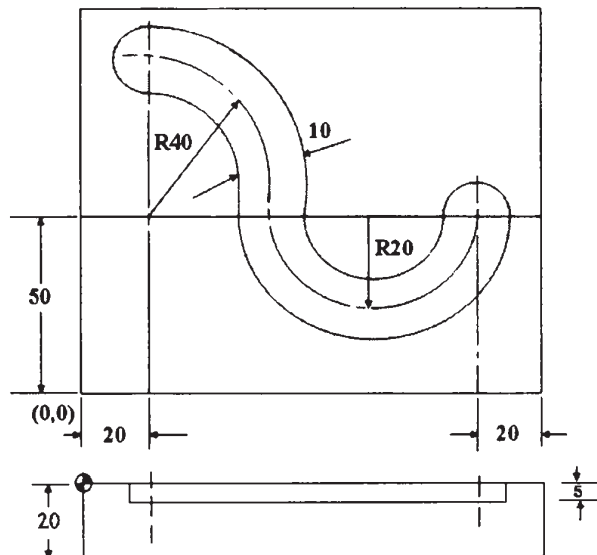

Fig. No. 1
- Write a part programme for milling a given component as shown in Fig. No. 1. The end mill cutter diameter is 10 mm. Use feed rate as 100 mm/min and spindle speed as 1000 rpm. Assume suitable data if necessary.